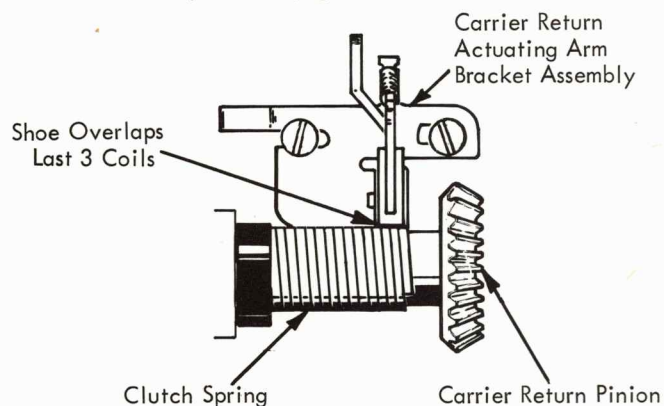

FIGURE 147.5 Carrier Return Shoe (Overlap)
- a. Overlap - Adjust the carrier return actuating arm bracket left or right so that the carrier return shoe overlaps the last 3 coils on the right-hand end of the clutch spring. Covering the last 3 coils ensures that all the coils of the spring will be used in the clutch operation (Fig. 147.5).